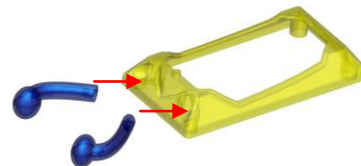

Fig. 3
2. Insert the antennae to the body frame (10). (Fig. 3)